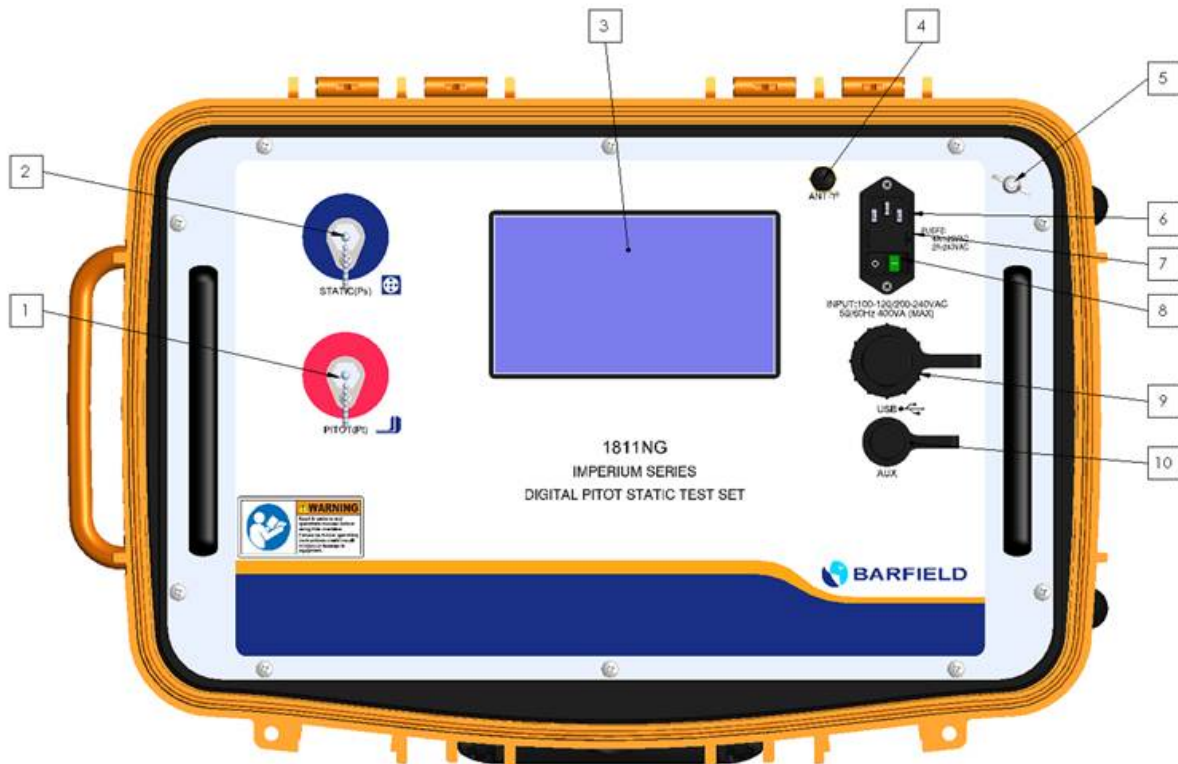

Figure 11 1811NG Front Panel
- B. The 1811NG chassis may be grounded to the aircraft or instrument under test using the Ground stud located in the upper right corner of the panel as depicted item 5 in Figure 11.
A. Front Panel Switches and Controls (Components shown in Figure 11).